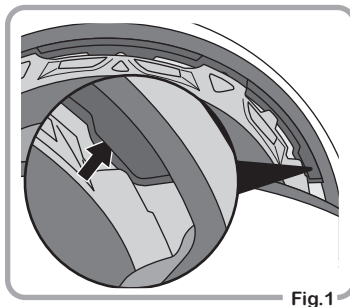

Fig.1
- ① Insert the interlining at the temple areas as shown in Fig.1.